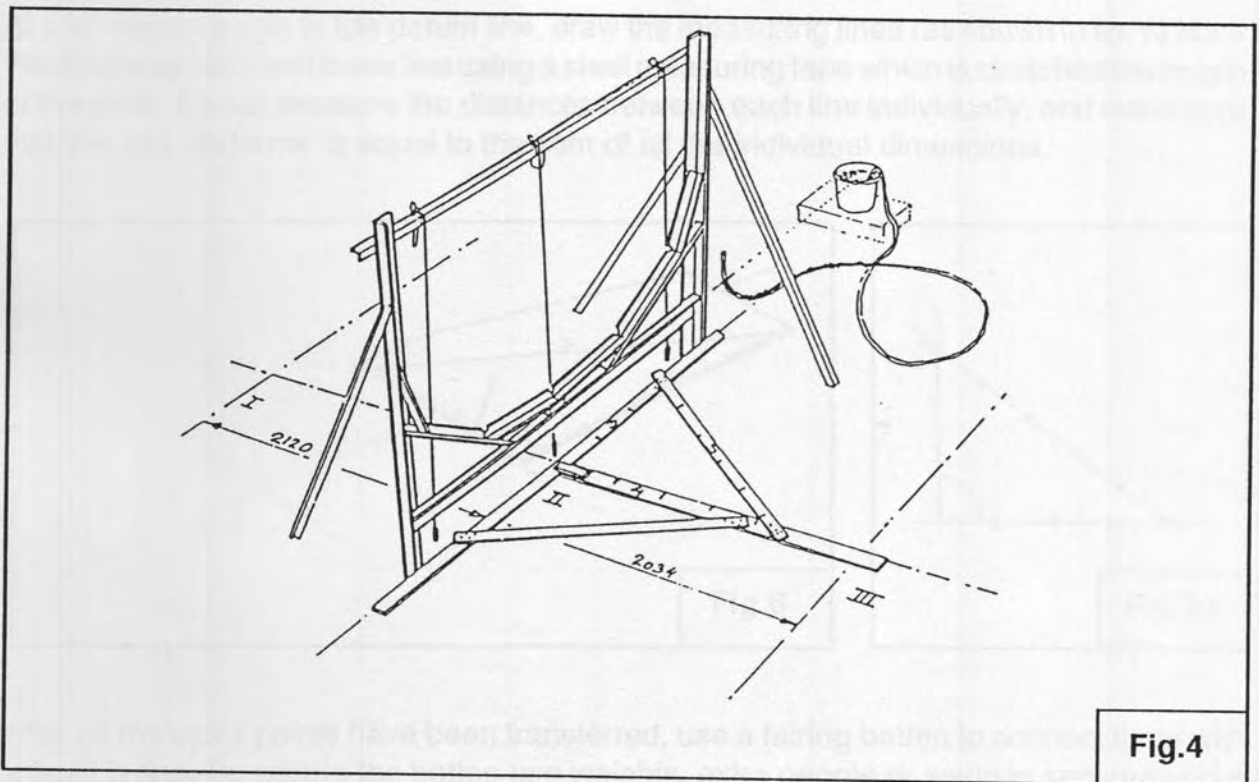
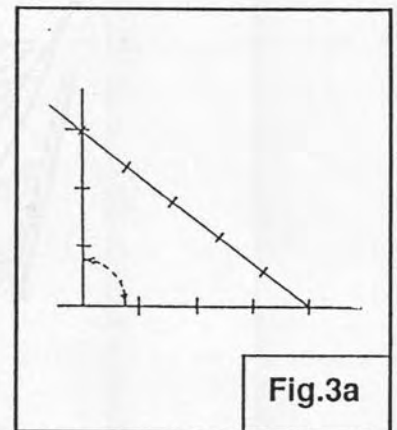

Fig.4
Fig.3a
5. Draw a centre line on the shop floor using the chalk line. (See PREPARING THE HULL SHEETS.) Draw the three frame location lines at a right angle to the centre line. Use a large 90 degree triangle (as shown in fig.4) to do this. This triangle can be made from three straight wooden slats on which 3,4 and 5 equal lengths have be marked (as in fig.3a), the so called 3-4-5 triangle.
6. Erect the middle support first. It must be placed a right angles to the the centre line and perpendicular. Check this with two or three plumb bobs. Then make sure that the horizontal bar is level (as shown in fig.4). The liquid level can be made of a bucket and transparent hose long enough to reach all parts of the building jig without moving the bucket. The bucket and hose must be filled with water to the same level as the horizontal beam, 42 cm. above the building floor.